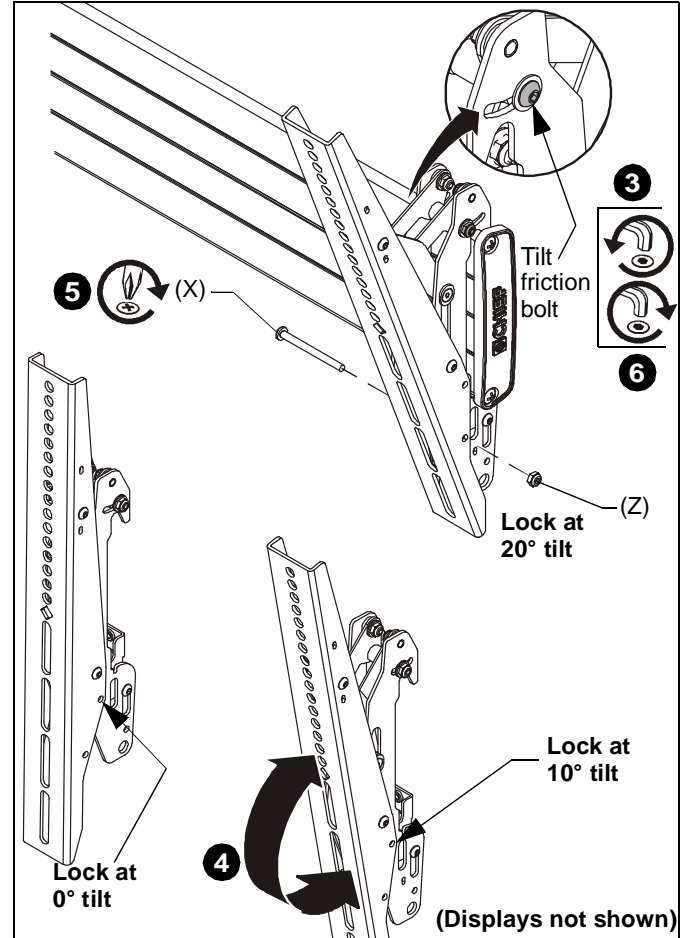

**Figure 10**
1. Turn the roll adjustment bolt(s) in the direction necessary for the desired roll. (See Figure 10)